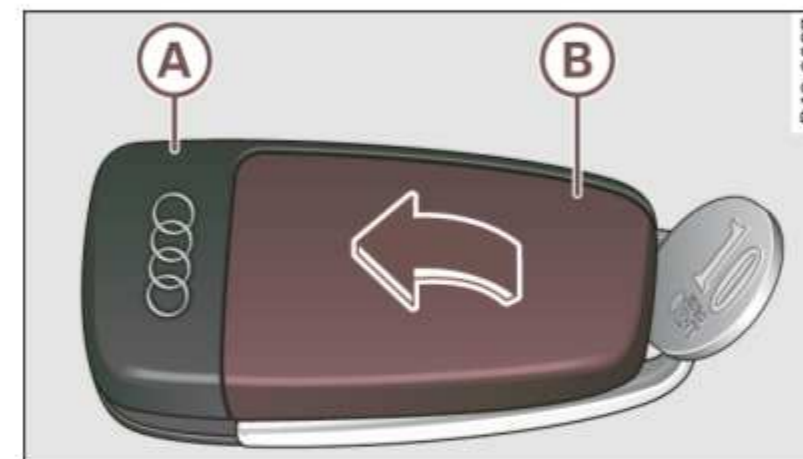

Fig. 30 Remote master key: opening the cover
- Pry apart the base ⇒ *page 44*, fig. 30 (A) and the cover (B) **carefully** with a coin.